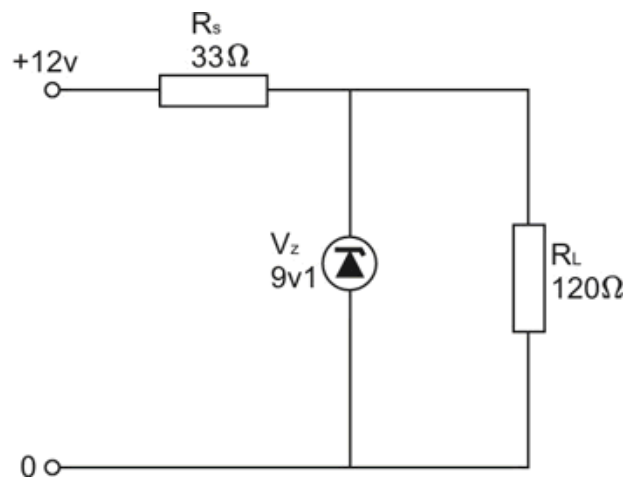

Figure 8
1. For the circuit shown in Figure 8, calculate the following:
2. Which of the following statements are true and which are false if the load resistor is removed from the circuit of Figure 8?